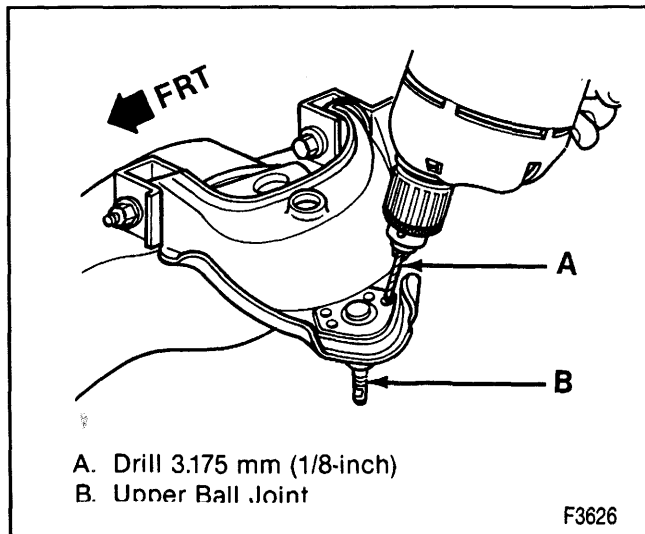

Figure 16—Drilling the Upper Ball Joint Rivets
3. Rivets from the upper ball joint (66).
- A. Use a 3.175 mm (1/8-inch) drill to cut a 6.35 mm (1/4-inch) deep hole in the center of each rivet (figure 16).